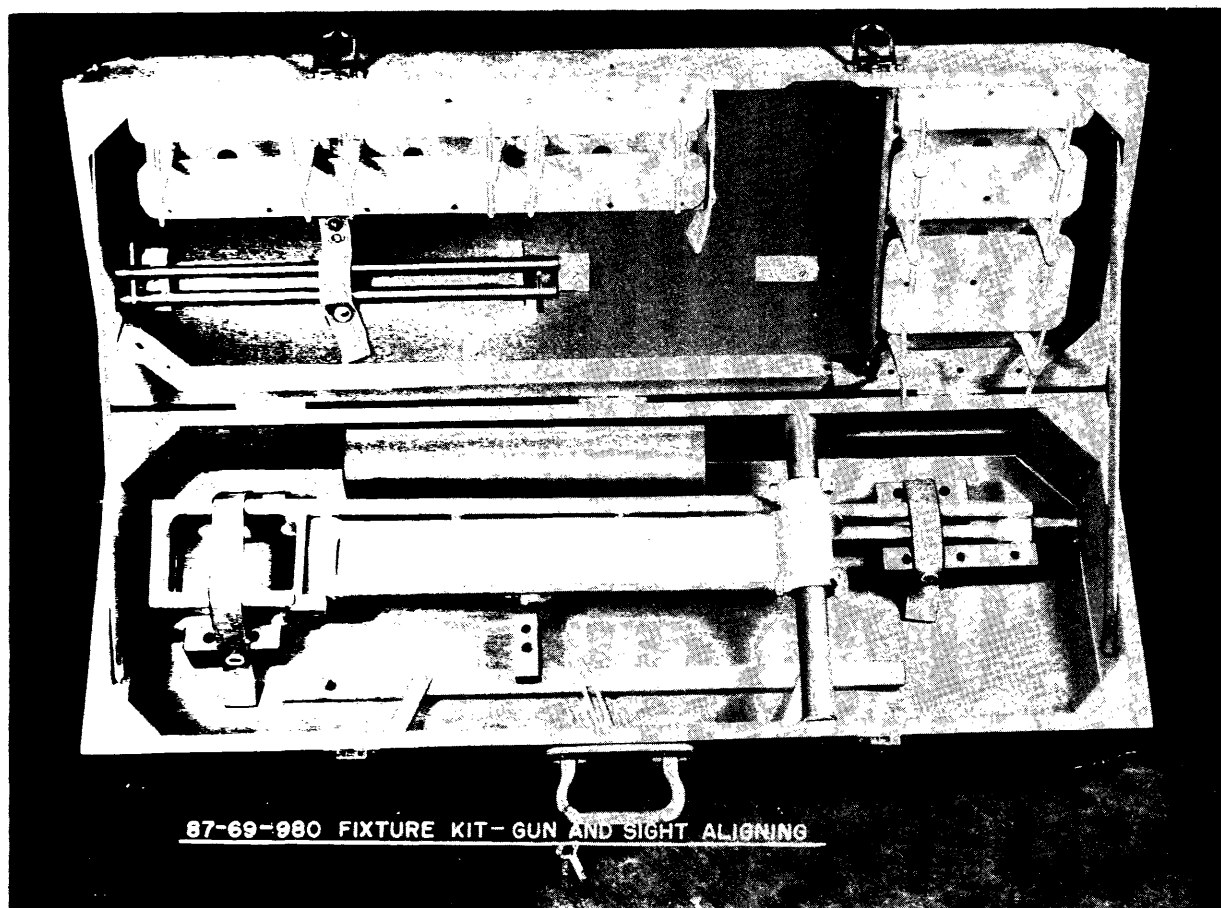

Figure 103 - Bore-Sighting Fixtures Packed in Carrying Case
**NOTE:** The fixture kits (figure 103) used in the following bore-sighting method are not available at the time of this revision (February 25, 1943).
(h) **Figure 103.** - Shows complete bore-sighting fixtures packed in carrying case and includes an